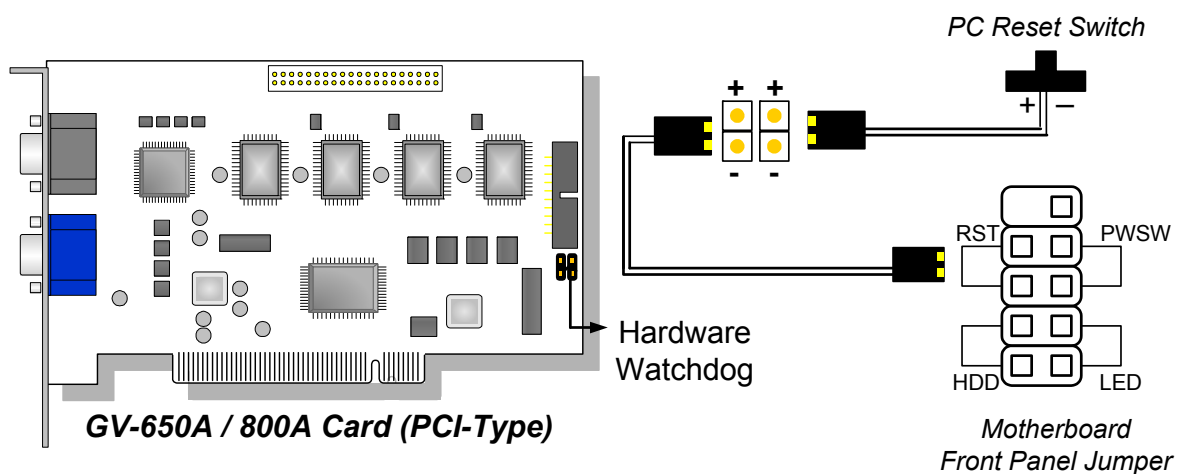

Figure 1-47
- **Hardware Watchdog Connection:** Connect the supplied Hardware Watchdog Jump Wire to the Master Card only (Figure 1-47).